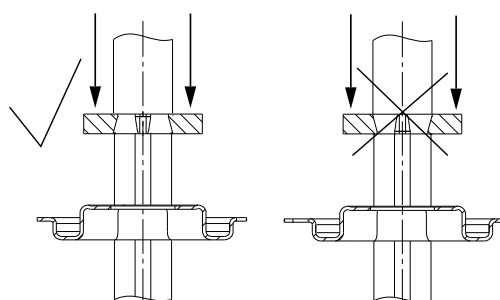

Fig. 6 Fitting the stop ring
4. Fit O-ring (pos. 107) into the rotating shaft seal part (pos. 104). For correct lubricant, see section 3. *Tightening torques and lubricants*.
5. Fit retainer (pos. 111) and stop ring (pos. 111a). See fig. 6.